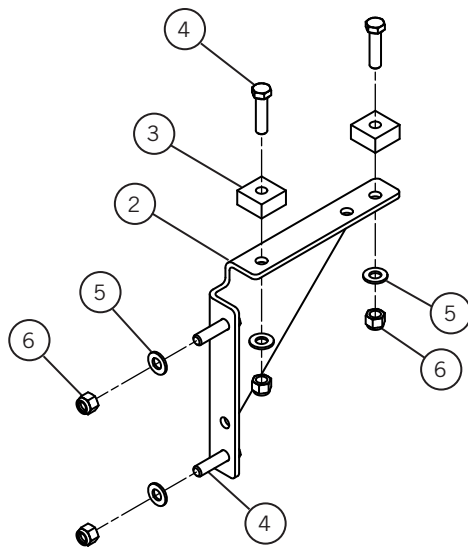

Figure 8-1
- 3) Figure 8-1.** Attach mounting brackets with rubber bushings (3), 1/2-13 x 2 hex bolt (4), 1/2 flat washer (5), and 1/2-13 nylon hex nut (6). Tighten until bushings compress to approximately 3/8" to 1/2".